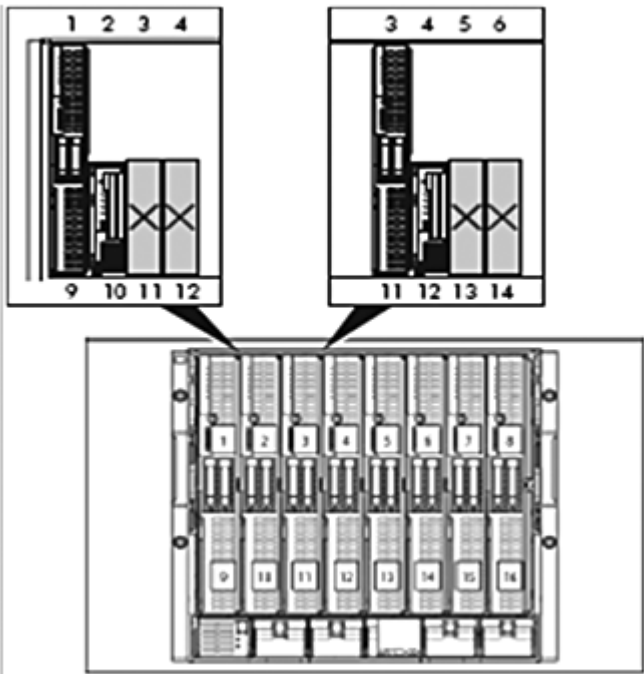

Figure 2 Installing a single expansion blade adjacent to a full-height, single-wide server blade.
1. One full-height, single-wide partner server blade supports one or two expansion blades. Figure 2 shows installation of one expansion blade.